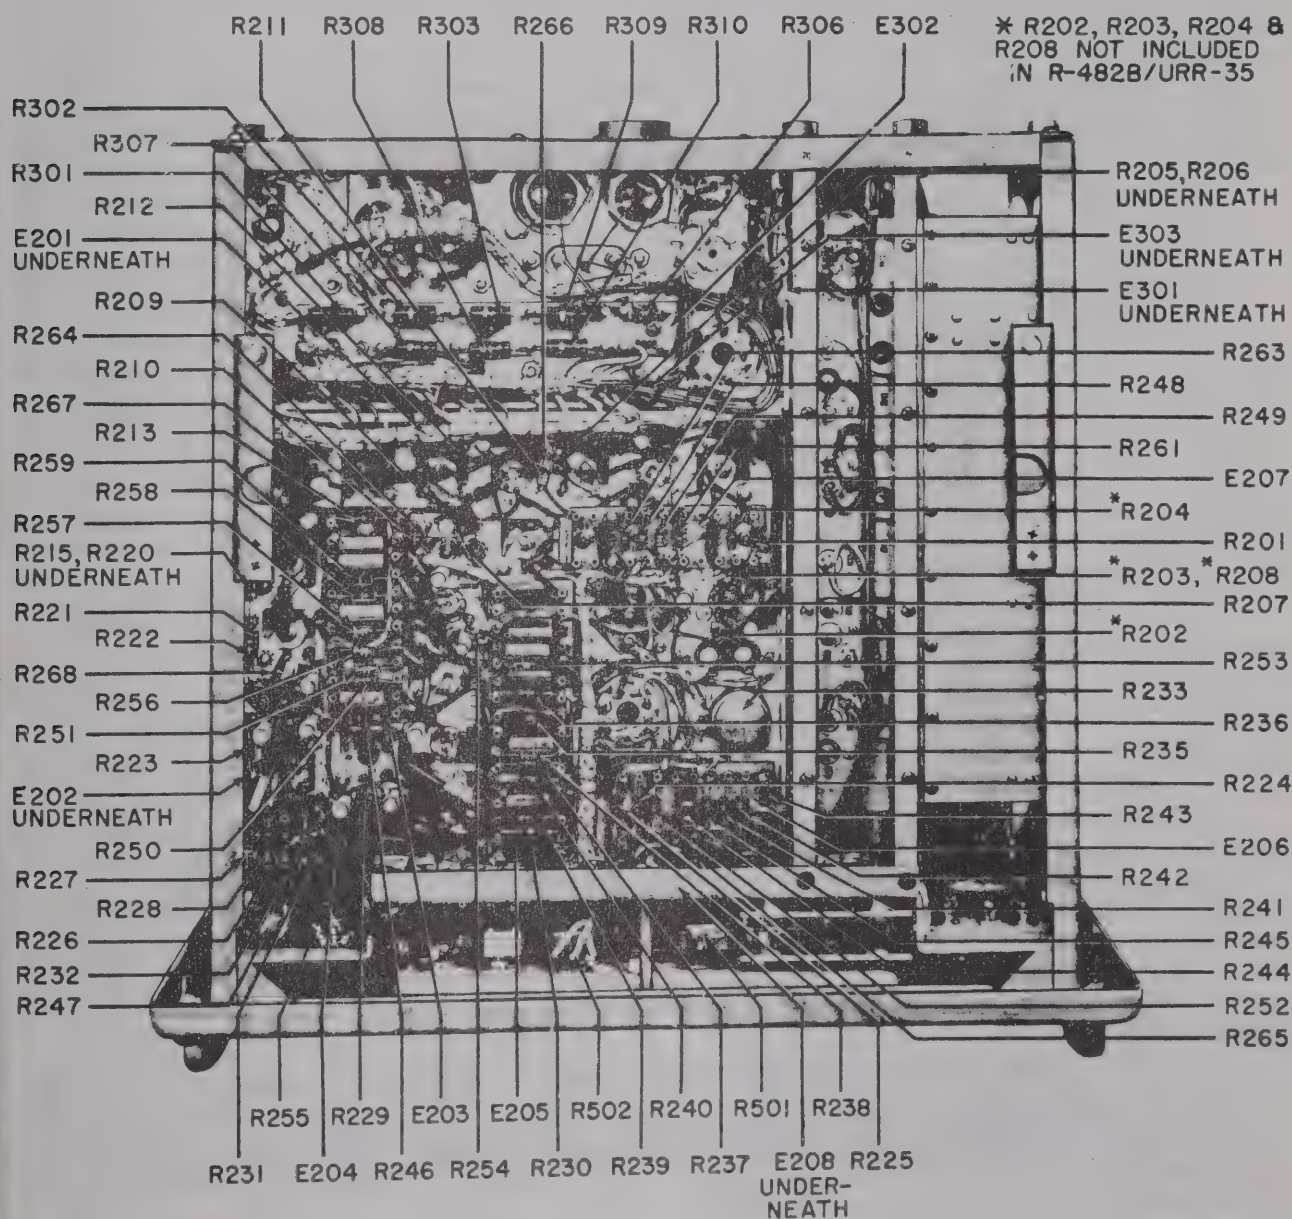

Figure 7-14. Radio Receiver R-482/URR-35, Bottom View—Identification of All Resistors and Terminal Boards
(2) Disconnect the blower bracket from the power supply sub-panel by removal of three screws.
(3) Unsolder the incoming power lead at capacitor C304.
(4) Unsolder motor leads 1 and 4 from terminal board E302; see figures 7-14 and 7-30.
(5) Remove the subassembly comprising the blower, bracket and capacitor C304.
(6) If a new blower is to be installed in place of the one in the equipment, transfer the bracket and the capacitor to the new part and reverse the above procedure.
(a) Unsolder, at terminal board E301 (see figure 7-14), those leads which run from the preselector to the terminal board. Tag each terminal to indicate which lead (of the original assembly or of a substitute assembly) is to be reconnected to it.
(h) On the bottom of the chassis (see figure 7-14), note two similar rails holding the preselector in place. Detach both rails from the rear panel and front-panel assembly, as outlined in step (g). Also remove two screws securing the preselector to the bracket on the power supply chassis.